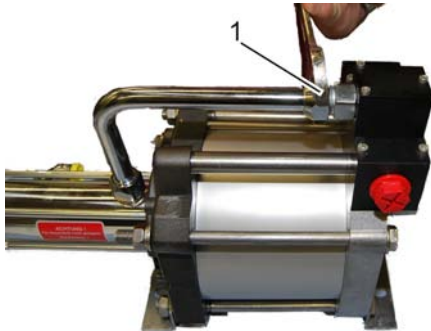

Fig. 86: Fastening the cooling pipe
- 6.** ➤ Fasten cooling pipe (Fig. 86/1) to threaded piece of control valve housing.